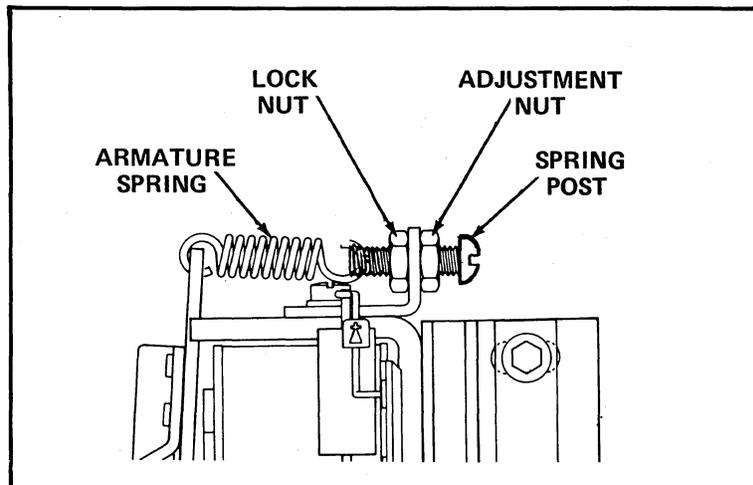
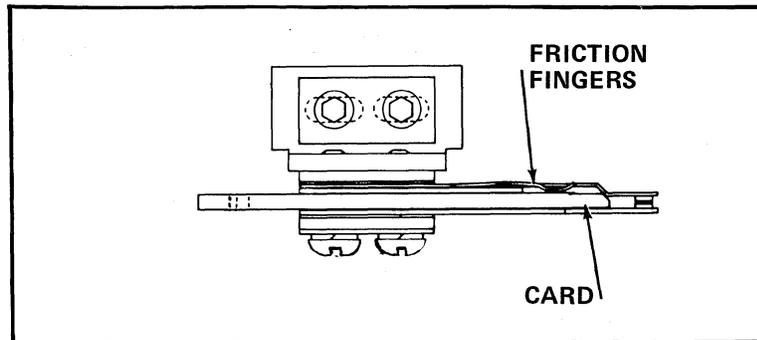

Figure 6-12 Armature Spring Tension Adjustment
Figure 6-17 Interrupter Switch Tension Adjustment
- (2) To adjust, loosen the lock nut of the armature spring post and increase or decrease tension by turning adjustment nut as required. See Figure 6-12.
- (3) Secure lock nut after assuring adjustment is correct.
- (1) Remove armature spring. See Figure 6-12.
- (2) Free slide tension of the interrupter switch card should be 56 - 70 grams. Use 10 - 80 gram gauge (see Table 7-1).
- (3) Bend the friction fingers against the card for free slide tension. See Figure 6-17. Use bender (number 102038, see Table 7-1).
- (4) Replace armature spring. See Figure 6-12.